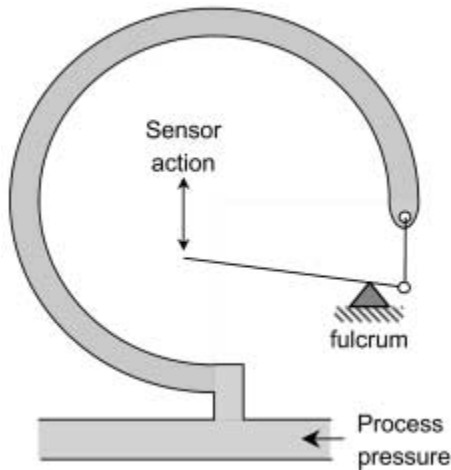

FIGURE 5.25 Bourdon tube pressure sensor.
*Bourdon tubes* are flattened pieces of pipe, capped at one end, that flex slightly when a pressure is applied to the open end (see Figure 5.25). This motion is then translated into an actuator motion or dial adjustment through an armature connected to the pipe. Bourdon tubes are used in a large number of dials and gauges and can provide a signal to pneumatic actuators.